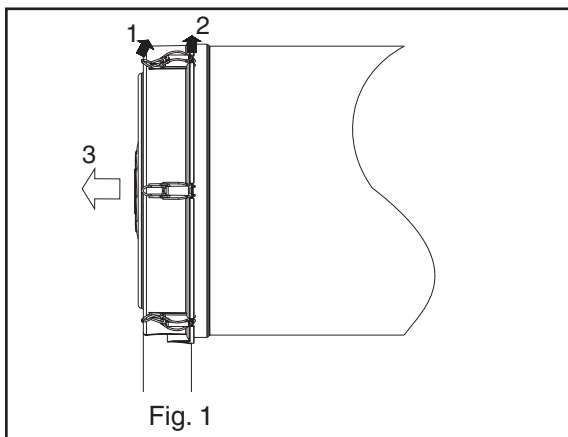

Fig. 1
1. Loosen all clamps and remove the cover (Fig. 1).